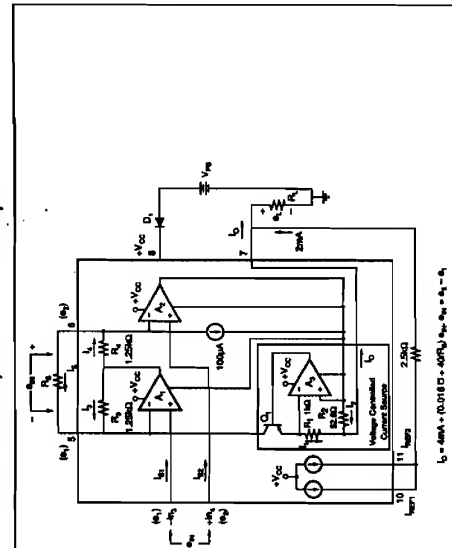

FIGURE 1. Simplified Schematic of the XTR101.
A simplified schematic of the XTR101 is shown in Figure 1. Basically, the amplifiers, A_1 and A_2 , act as a single power supply instrumentation amplifier controlling a current source, A_3 , and Q_1 . Operation is determined by an internal feedback loop, e_1 , applied to pin 3. The current in the feedback loop, i_1 , will appear at pin 6. Therefore the current in R_f , similarly i_1 , will appear at pin 6. The current in R_f is the span setting resistor, will be $i_1 = (e_1 - e_2)/R_f = e_1/R_f$. This current combines with the current, i_2 , to form i_3 . The circuit is configured such that i_3 is 19 times i_1 . From this point the derivation of the transfer function is straightforward but lengthy. The result is shown in Figure 1.
The basic connection of the XTR101 is shown in Figure 1. A difference voltage applied between input pins 3 and 4 will cause a current of 4-20mA to circulate in the two-wire output loop (through R_C , V_{CC} , and D_1). For applications requiring moderate accuracy, the XTR101 operates very cost-effectively with just its internal drive transistor. For more demanding applications (high accuracy in high gain) an external NPN transistor can be added in parallel with the internal one. This keeps the heat out of the XTR101 package and minimizes thermal feedback to the input stage. Also in
7. It is recommended that a reverse polarity protection diode (D) in Figure 1 be used. This will prevent damage to the XTR101 caused by a momentary (e.g., transient) or long term application of the wrong polarity of voltage between pins 7 and 8.